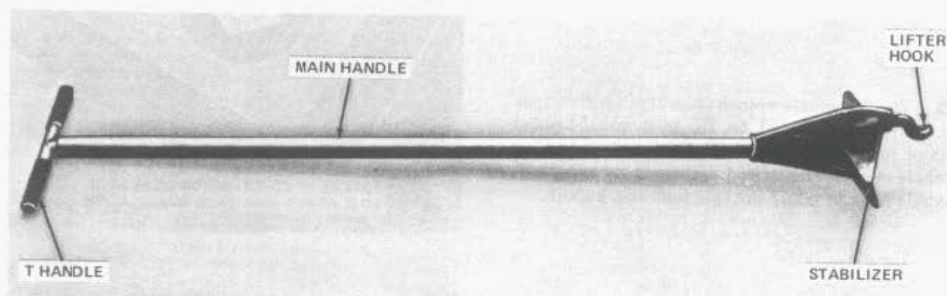

Fig. 6—B Manhole Cover Lifter
4.02 B Manhole Cover Lifter AT-8967: The B manhole cover lifter (Fig. 6) can only be used on manhole covers with lifter pockets.